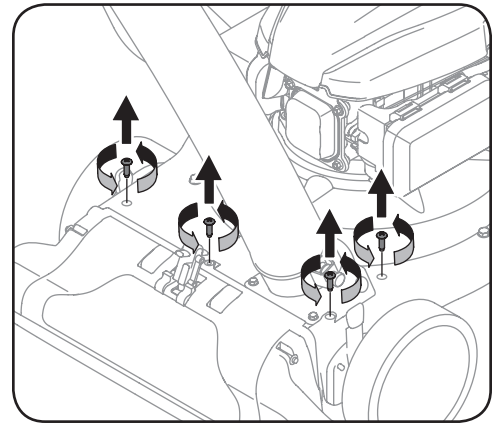

Figure 7-9
11. Remove the four screws on the upper housing that secure the nozzle cover. See Figure 7-9.